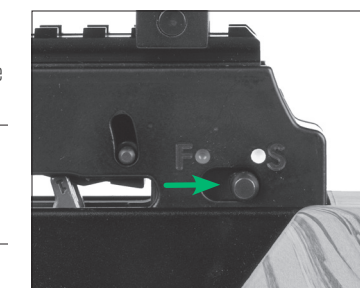

FIGURE 19
To manually engage the safety, slide the safety switch (Part 2) backwards until you hear and feel the safety switch click into place. Confirm that the safety switch has moved from under the (F)IRE position and the red dot to under the (S)AFE position and the white dot, as illustrated in Figure 19.
**⚠ WARNING:** IF, FOR ANY REASON, THE SAFETY SWITCH WILL NOT FULLY CLICK INTO THE (S)AFE POSITION WHILE THE CROSSBOW IS COCKED, SAFELY DE-COCK THE CROSSBOW BY FIRING AN ARROW AT A SAFE TARGET. DO NOT USE THE CROSSBOW OR ATTEMPT TO COCK IT. PLEASE CALL CENTERPOINT ARCHERY CUSTOMER SERVICE AT (866) 726-1122 TO ARRANGE FOR AUTHORIZED REPAIR.